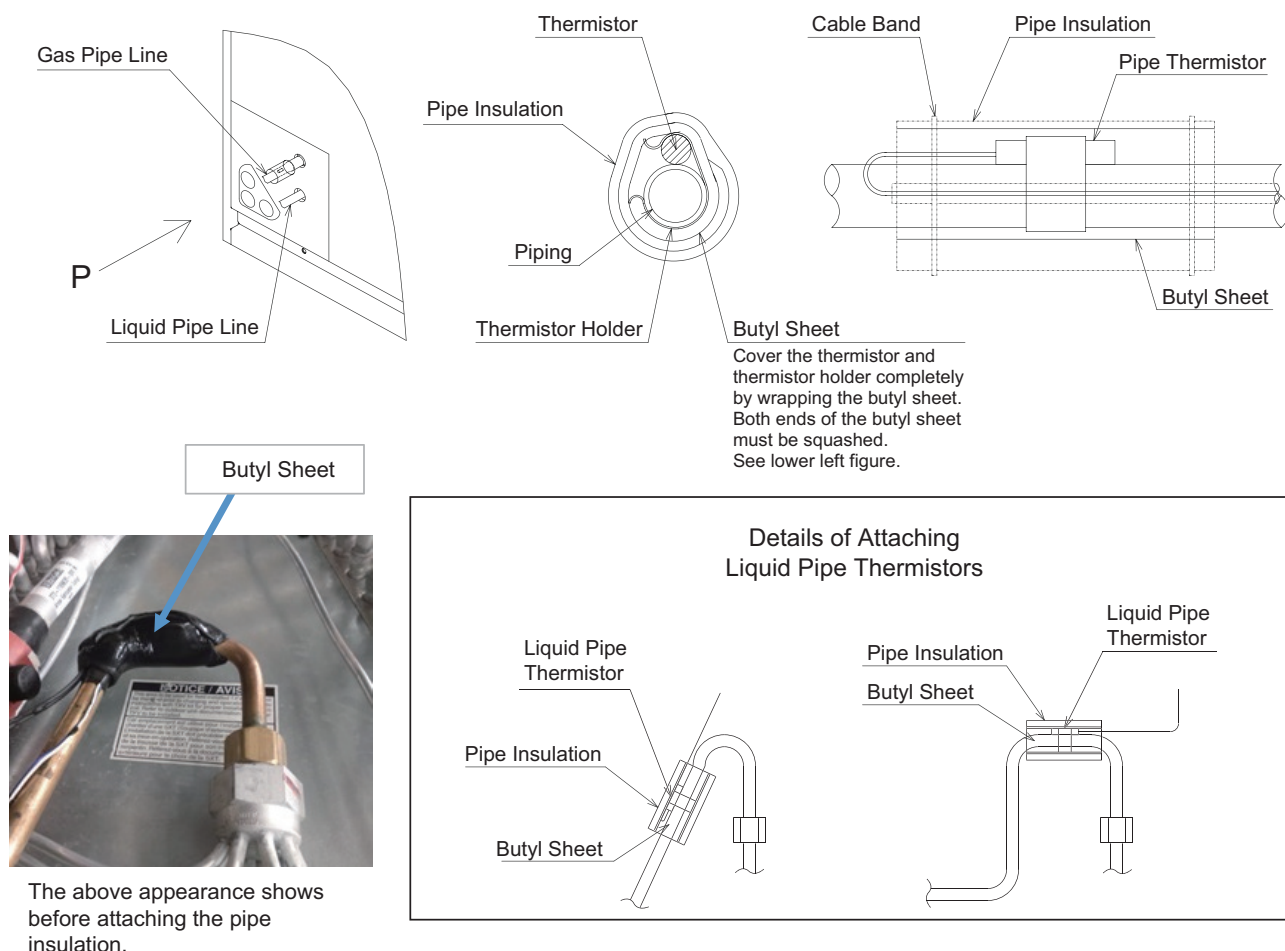

Figure 34. Thermistor Installation with Details
- (1) Remove both upper and lower front panels of the air handler to access the blower and coil compartment.
- (2) Remove the control box cover with the six screws.
- (3) Pass the two connector side of thermistor cable through the opening hole and connect the thermistor connectors to the corresponding connectors on the PCB.
- (4) Route the thermistor probe end inside the air handler by passing through the opening hole on the right side of the top panel of the air handler.
- (5) Attach the thermistor probes to position indicated in the figure 34 inside the air handler.